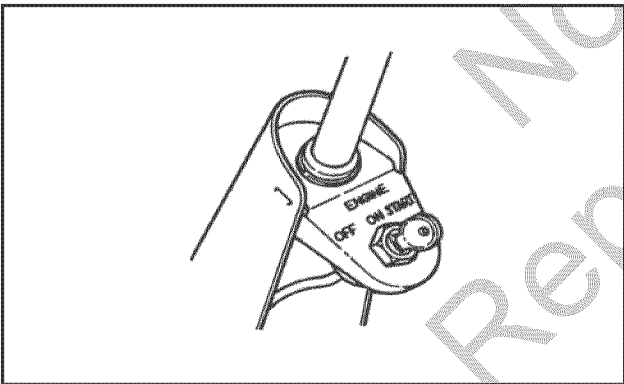

FIGURE 8
5. Turn the ignition key (Figure 8) to the START position until the engine starts.
7. Turn the ignition key (Figure 8) to the OFF position to stop the engine.